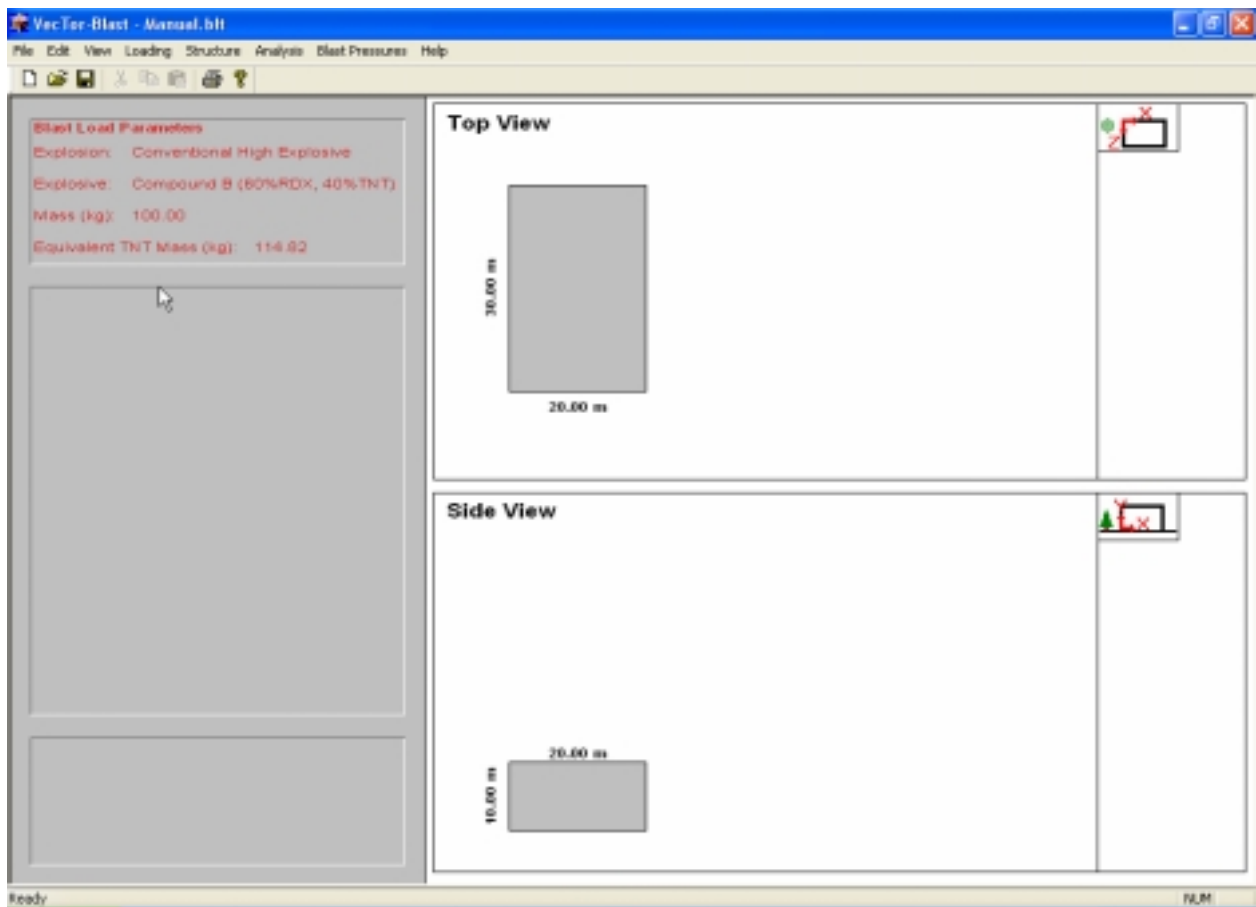

Figure 12 Example view window with the structure.
6. Click **OK**. The structure appears with dimensions as shown in Figure 12.